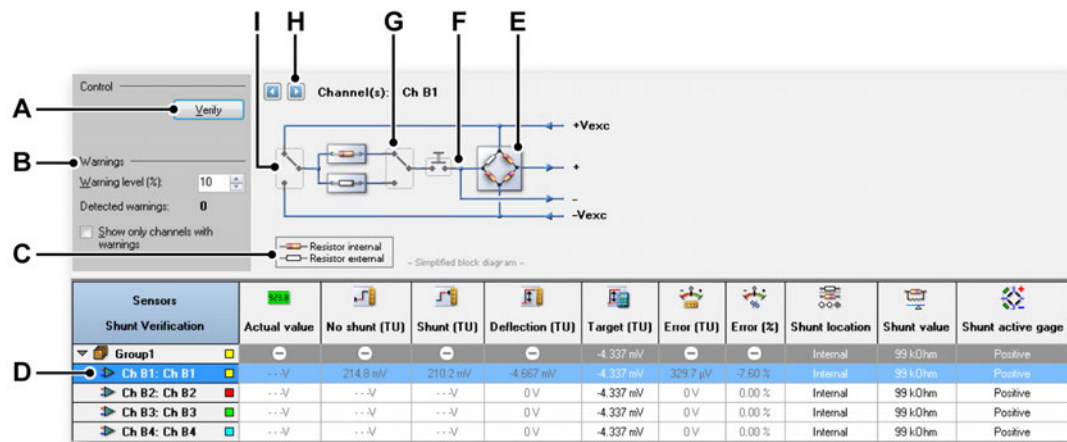

Figure N.13: Shunt verification dialog
- 8 Select between internal or external shunt usage: In the **Internal shunt** column, enable internal to use an **internal** shunt or clear the option to select an **external** resistor. Select the appropriate value setting as described earlier or click on the switch in the diagram (**G** in Figure N.13).
- 9 Select the bridge arm: Use the **Active gage** column to select between **Positive** (A-C) or **Negative** (C-D) or click on the switch in the diagram (**I** in Figure N.13).
- 5 Enter a value as **Target**: The target value is the result of the bridge value, excitation value and shunt value. Tables exist for commonly used values. For an example, please refer to Figure N.8. In Figure N.13 on page 924 the value that corresponds to a 350 Ω bridge, 20 k Ω shunt is used, thereby resulting in a 4.337 mV deflection per volt excitation and a 1 volt excitation.